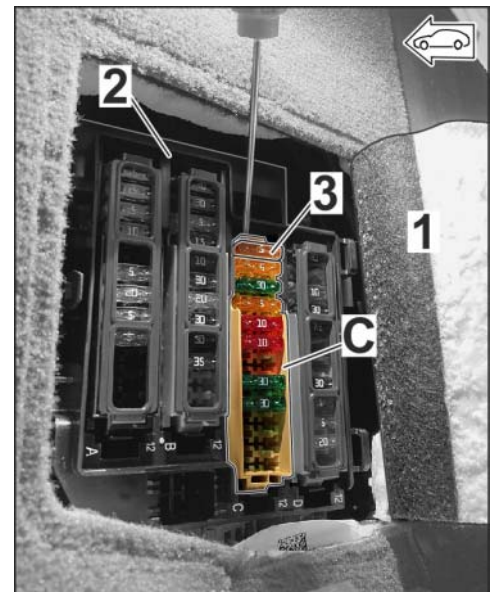

Figure 24
4.1.3 Install trim panel for center window frame. ⇒ *Workshop Manual '709219 Removing and installing trim panel for rear lid'*4.2 Install (front) roof console. ⇒ *Workshop Manual '708319 Removing and installing front roof console'*4.3 Protecting front and rear cameras against short circuits and overload damage (⇒ *Figure 24*)